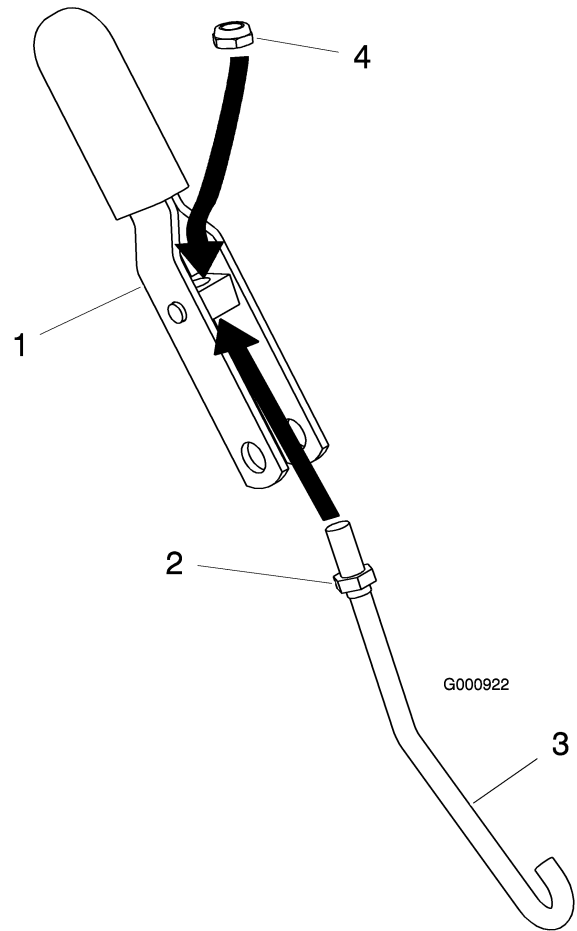

Figure 4
1. Install the jam nut (3/8 inch) all the way onto the threaded rod hook end (Figure 4).
2. Install the rod hook through the block in the middle of the handle and secure it with a locknut (3/8 inch) until there is one thread showing on the end of the rod hook (Figure 4).
6. Tighten the jam nut up against the block in the handle (Figure 4).